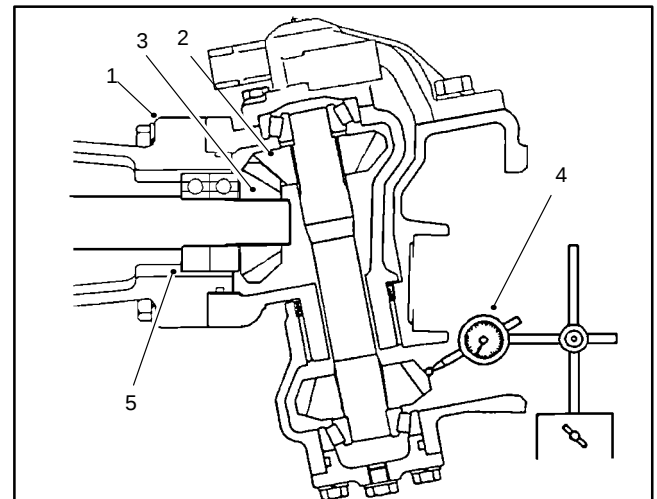

Figure 71
7. Temporarily install the bevel gear case/axle case assembly on the axle support. Position a dial indicator at the teeth center. Prevent the axle from turning and measure the upper bevel gear to differential shaft gear backlash (Fig. 71).